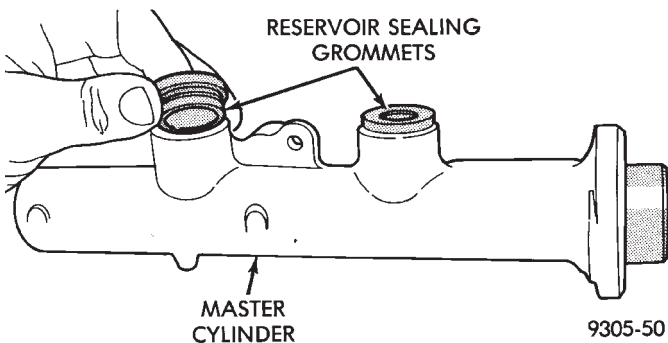

Fig. 158 Reservoir Sealing Grommets
(7) Remove the master cylinder housing-to-reservoir grommets (Fig. 158).
(1) Install new housing-to-reservoir grommets in master cylinder housing (Fig. 158).
(2) Lubricate brake fluid reservoir mounting area with clean brake fluid. Place reservoir in position over grommets. Seat reservoir into sealing grommets using a rocking motion while pushing down on reservoir.